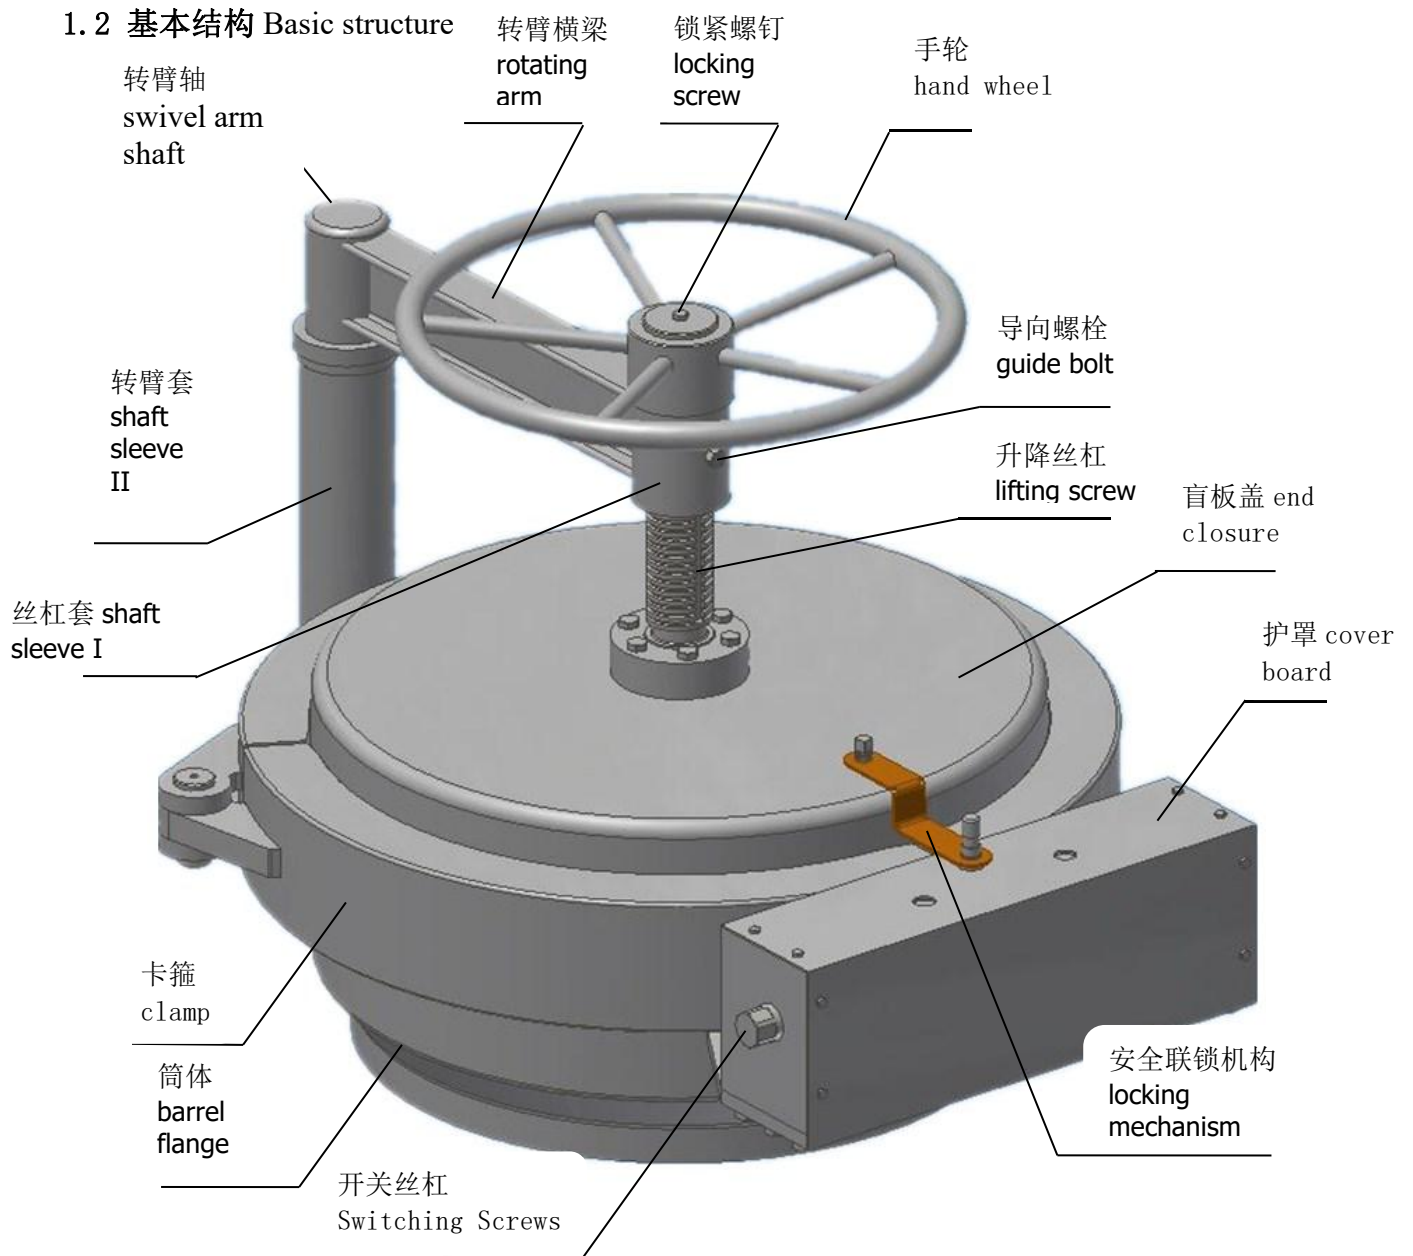

图 1 (picture 1)
2)... 按图 1 所示，a.卸下手轮中心锁紧螺钉 b. 卸下手轮 c. 卸下转臂轴下端螺母 d.拧松导向螺栓；
2)As shown in Figure 1, a. Remove the handwheel center locking screw b. Remove the handwheel c. Remove the locking nut on the lower end of the swivel arm shaft d. Loosen the guide bolt;